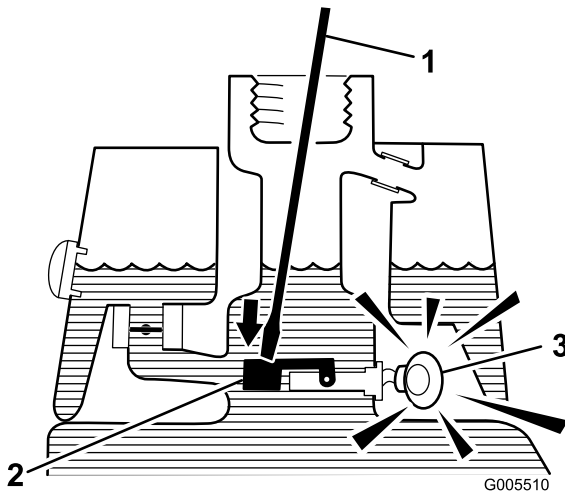

Figure 13
3. Insert a clean rod or screwdriver into the tank neck and gently push down on the oil level sensor float (Figure 13): The alarm should sound after a one-second delay.